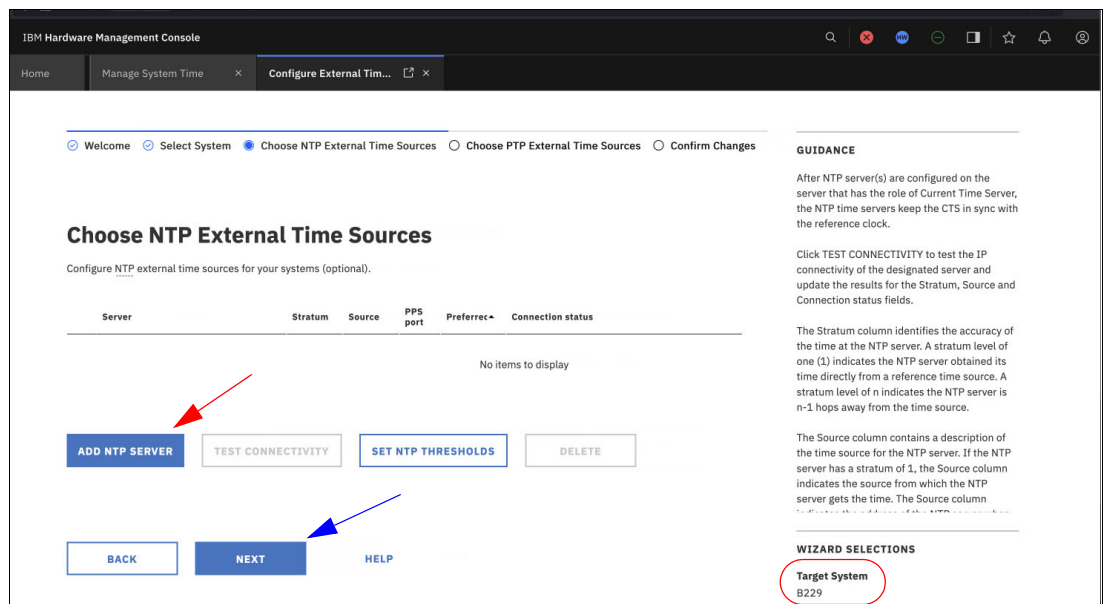

Figure 4-17
- Click **ADD NTP SERVER** to configure an NTP server as an ETS for B229 CPC. (Figure 4-17).